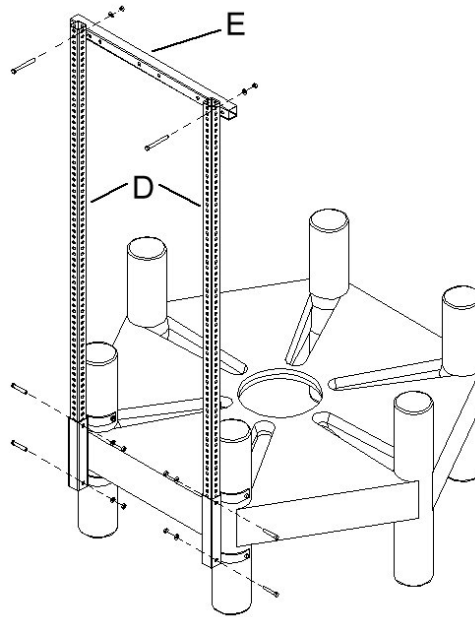

Fig. 2
4. Insert 1 vertical support tube (D) into each of the leg mount bracket slots and attach using 4 of the 2 1/2 in long bolts. Place a washer and nut on each of the bolts and tighten until snug (see fig. 2).
5. Using the 4 in long bolts, attach the horizontal support tube (E) to the vertical support tubes at the desired height. Remember to make sure the horizontal support tube is placed where it will be just above the top lip of the tank (see fig. 2). Place a washer and nut on each of the bolts and tighten until snug.